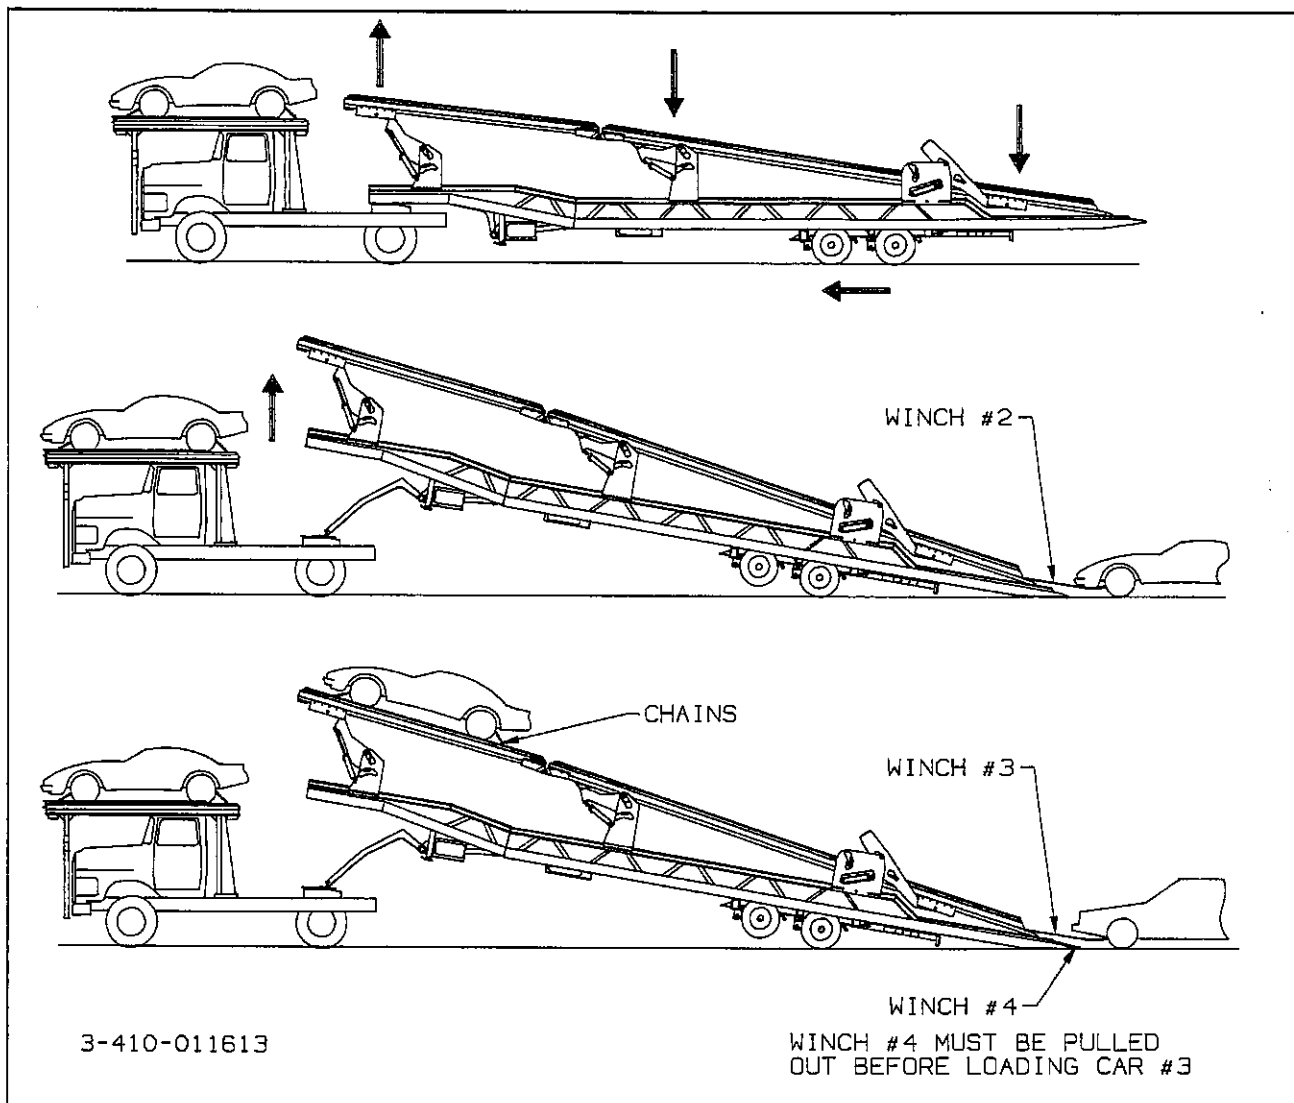

Figure 3-9 Loading the Upper Deck
- b. Unlock and lower the middle arm as far down as it will go. (See Figure 3-9.)